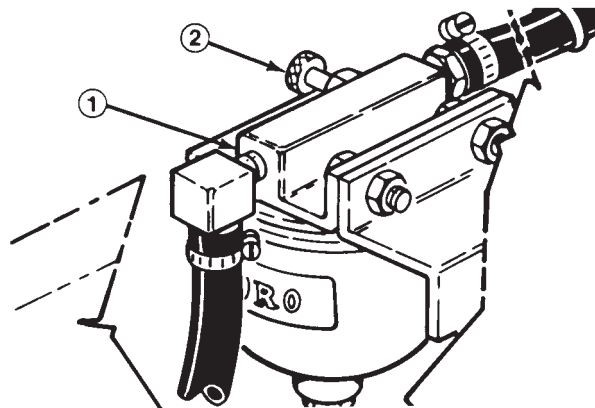

Figure 11
2. From the left side of the rear wheel, locate the air bleed screw on top of the fuel filter/water separator and loosen the screw (Fig. 11).